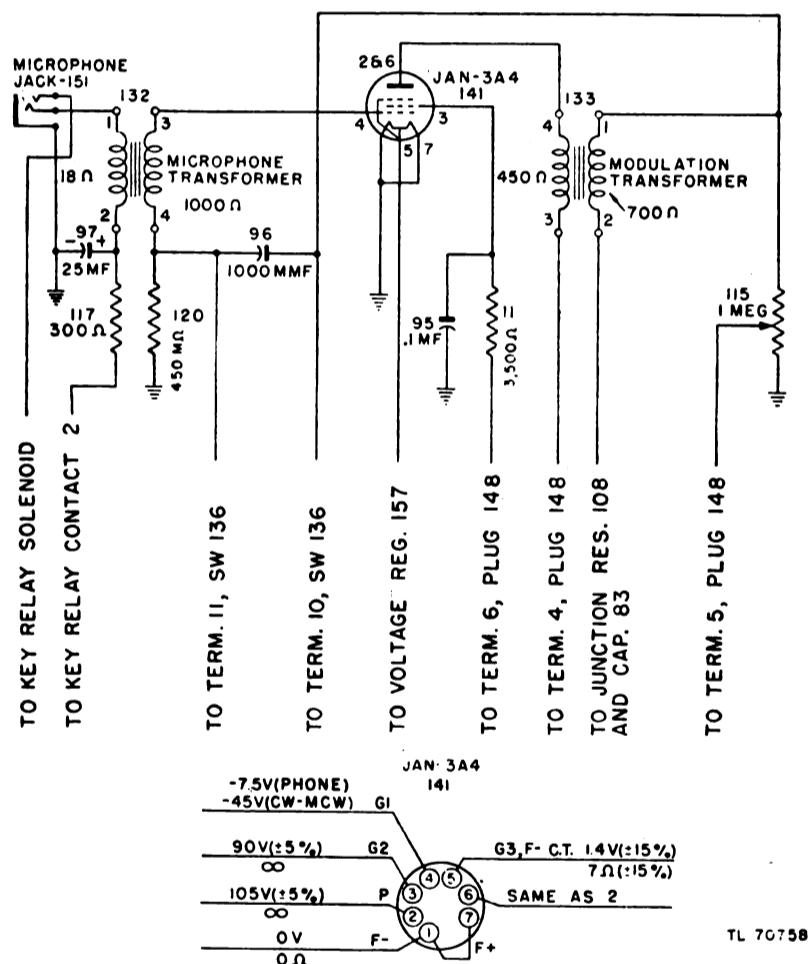

Figure 43. Modulator stage schematic of transmitter of Radio Receiver and Transmitter BC-1306.
*a. STAGE DATA.* (1) The modulator stage schematic, figure 43.
(2) Parts identification illustrations.
(3) Voltage and resistance values of socket 141, stage schematic, figure 43.
(4) Parts data, table XXII.
(2) *Tube socket voltage and resistance check.* Check the voltages and resistances from the socket terminals to ground. Never check for resistance with power on. All voltages and resistances must be normal as indicated on figure 43. Localize any trouble to a particular portion of the stage, making a check of each individual component associated with that portion of the stage.
(3) *Point-to-point continuity check.* If the preceding steps fail to indicate the cause of trouble, perform a point-to-point continuity check, referring to the stage schematic, figure 43, and to the parts identification illustrations, figures 6, 7, 8, and 55. Check the voltage drop across the resistors, transformers, and other components. Check for faulty soldered joints, broken connections, short circuits, and grounds.
Table XXII. Parts data, modulator stage (transmitter) (fig. 43)